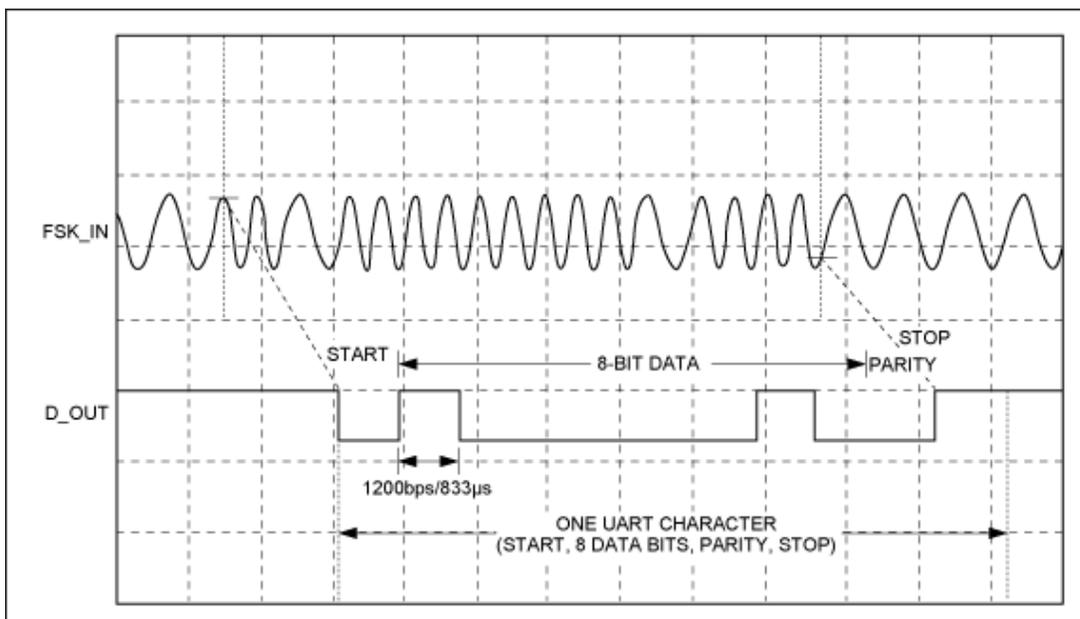

Figure 4. Demodulator waveform.
**Figure 4** shows the DS8500 in demodulate mode where FSK\_IN is the input to the modem and D\_OUT is the output to the UART.